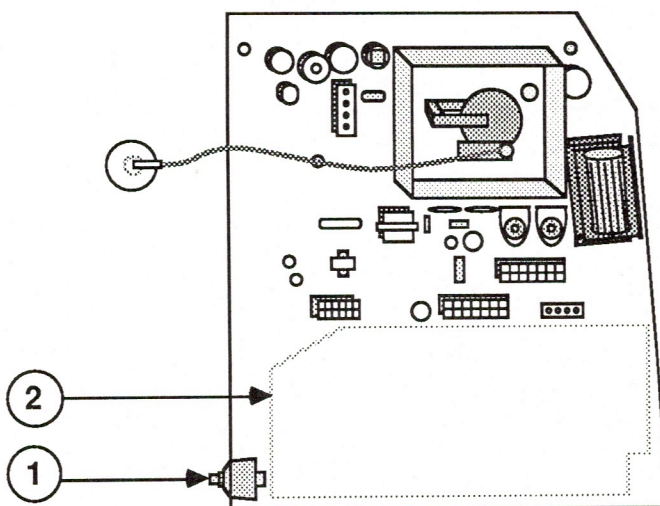

FIGURE 9
12. If you are returning the analog board to Apple, first remove the brightness knob (Figure 9, #1) and put the knob on the replacement analog board.
1. Place the power supply on the inside of the analog board, using the painted outline on the board as a guide (Figure 9, #2).